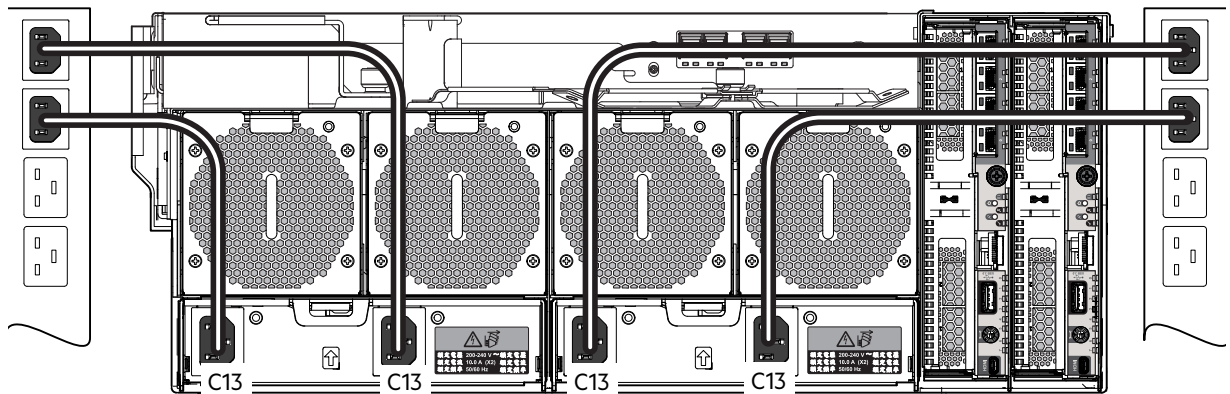

Figure 68 Typical AC power cord connection from PDU to PSU
- Figure 68 \(page 79\) shows power connection from a dual-core PSU to a PDU using C13 cable connectors connected to the C14 receptacles on the PSUs.
- Power ON the enclosure by connecting the power cables from the PSU to the PDU. See Figure 68 \(page 79\). The System Power LED on the front panel should be lit green when the enclosure power is activated.